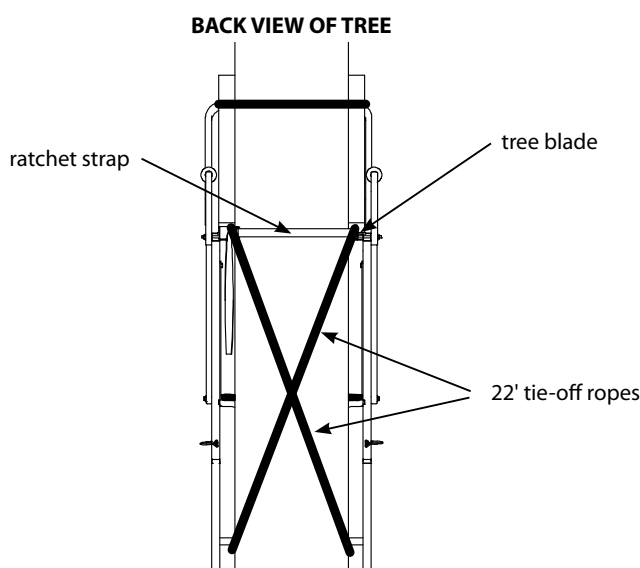

Figure 4a: Applies to RE607 and RE619
e. Wrap the previously attached tie-off ropes hanging down from platform, around the back side of tree in opposite directions of each other. Pull the ropes snug and tie them to the ladder at the stabilizer bar height location. This ground level ladder-to-tree attachment will prevent the ladder from pulling away from the tree while ascending to top for final ratchet strap attachment. The same holds true when ladder removal is necessary. **SEE FIGURE 4a and 4 b.**